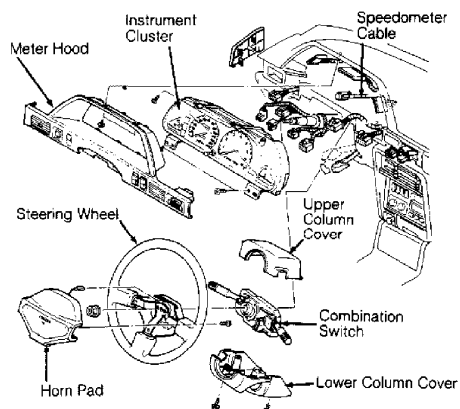

Fig. 11: Removing Instrument Cluster (Protege & 323)
1) Remove steering wheel and column covers. See Fig. 11. Remove combination switch. Remove meter hood. Remove screws attaching instrument cluster to dash.